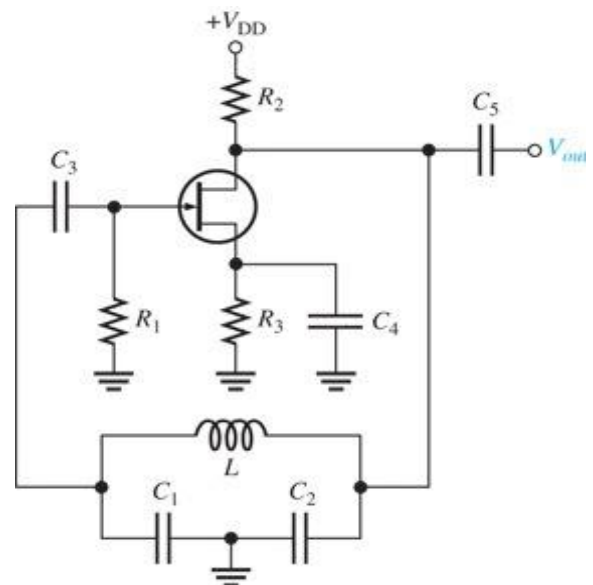

Figure 16 A basic FET Colpitts oscillator.
- As indicated in Figure 16, the input impedance of the amplifier acts as a load on the resonant feedback circuit and reduces the Q of the circuit.